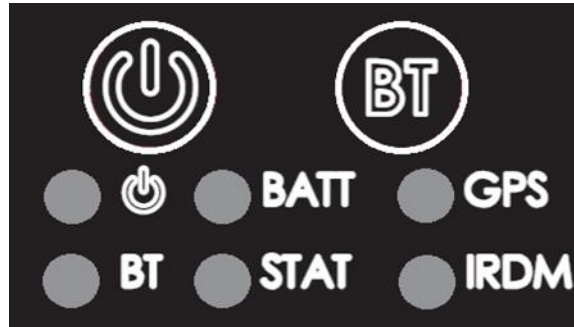

Figure 3: Control Buttons and Status LEDs on the SHOUT ns Front Face
The SHOUT ns has six (6) status LEDs, as shown in **Figure 3**, which include power , battery level (BATT), GPS fix (GPS), Bluetooth state (BT), transmission status (STAT), and Iridium signal (IRDM). They provide a quick visual check to ensure proper operations. Each LED can be enabled and disabled through a setting in the general configuration profile (^LEDS) (see section 5.2.2.1 **General Profile Settings**). **Table 1** below describes the function of each LED.